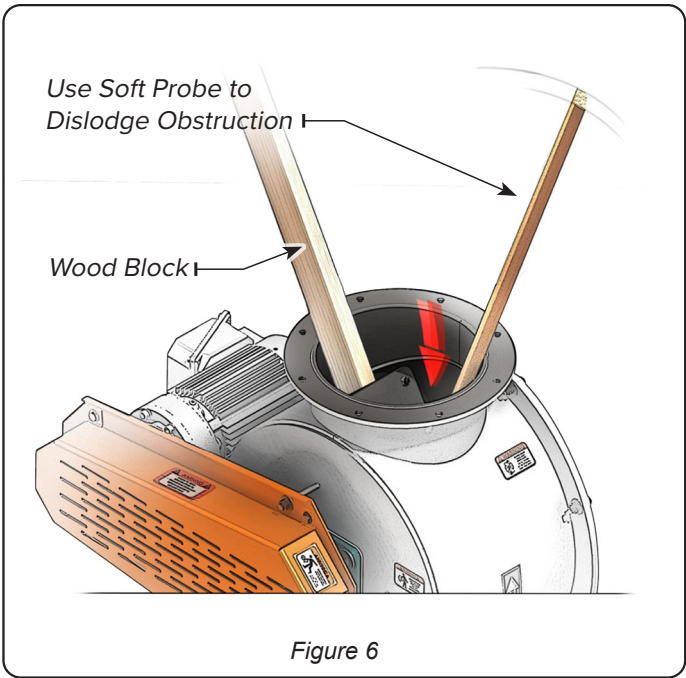

Figure 6
- 3. Place a block in the airlock to prevent the rotor from turning unexpectedly (Figure 6).